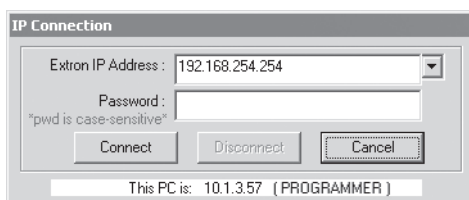

Figure 5-4 — Address and password entry
3. **If you selected *IP [LAN]* in step 2**, the IP Connection window appears (figure 5-4).